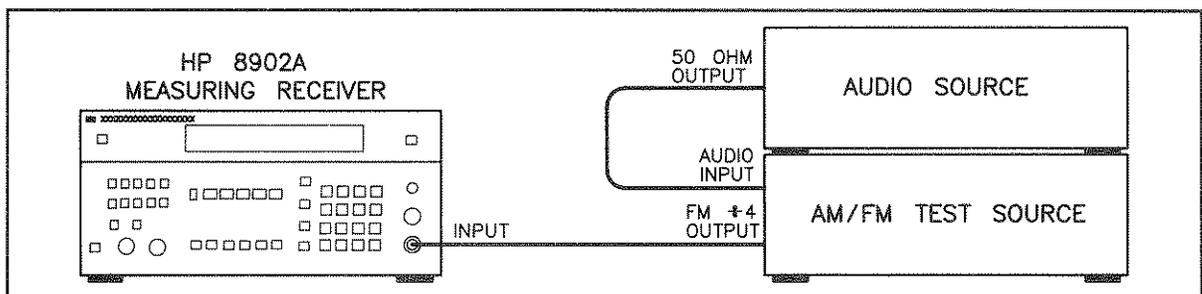

Figure 4-8. Measuring Receiver Incidental AM Verification Test Setup
- Connect the FM divide-by-4 output of the AM/FM test source to the input of the measuring receiver and the 50 ohm output of the test oscillator to the audio input of the AM/FM test source, as shown in Figure 4-8.